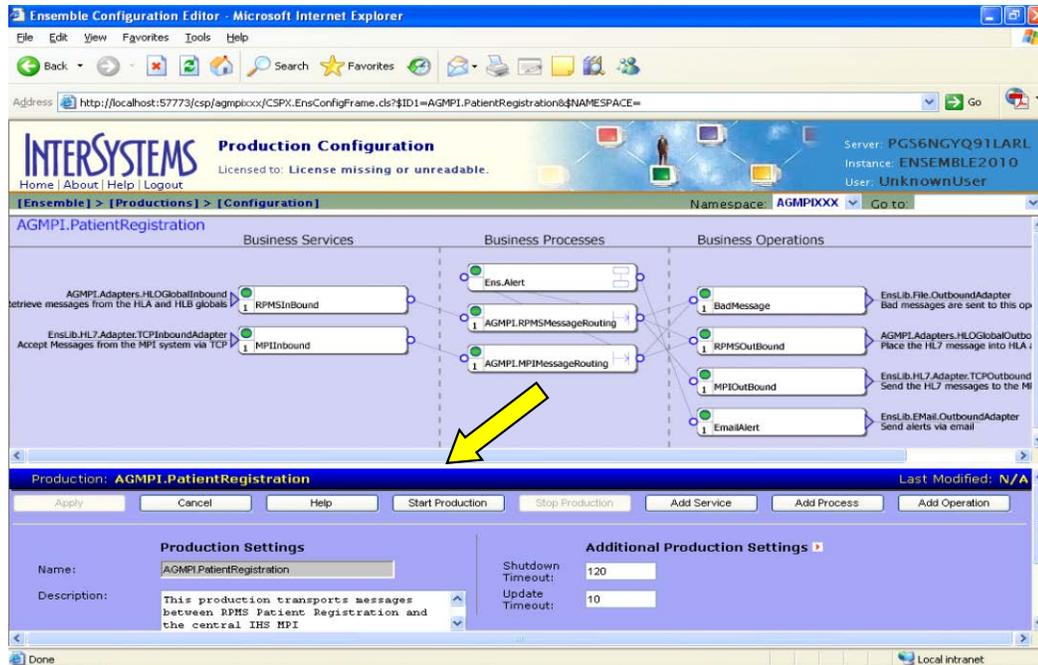

Figure 5-11: Ensemble Configurations page for AGMPI.PatientRegistration production showing the separator bar between the panes
The **Ensemble Configuration** page consists of two panes with a movable separator bar between them, as shown in Figure 5-11.
- If nothing in the top pane is selected, the bottom pane contains general production settings, as shown in Figure 5-11.
As shown in Figure 5-11, the **Production Settings** pane is displayed when nothing has been selected in the top pane of the **Ensemble Configurations** page.